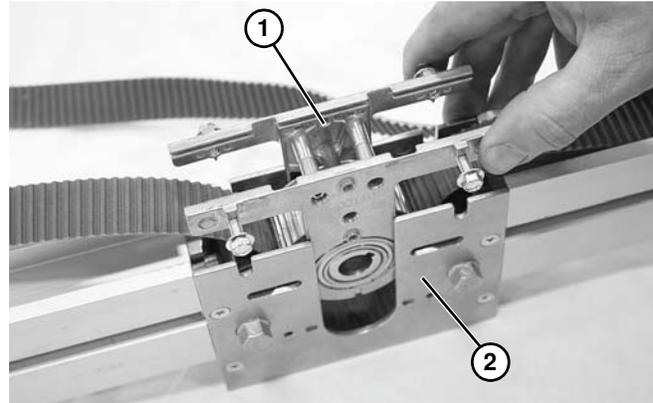

Figure 17
- While pressing in on hex flange screws, remove mid drive cartridge (**Figure 17, item 1**) from mid drive assembly (**Figure 17, item 2**).